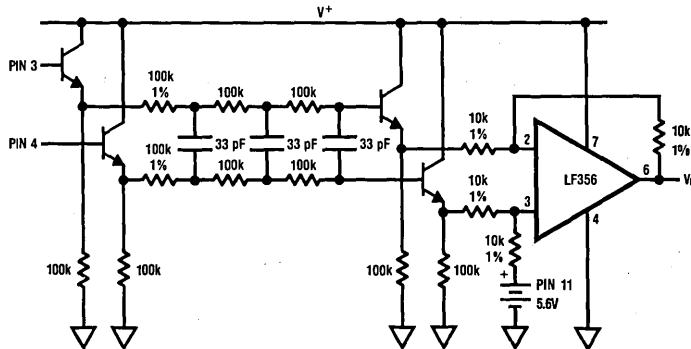

FIGURE 22. Circuit to view the differential demodulated data signal, minus the noise and $2F_0$ components, conveniently with a single-ended gain-of-one output
- When evaluating PLL operation, offset cancel circuit operation, and loop filter values, use the filter of Figure 22 to view the demodulated signal minus the $2F_0$ and noise components. This filter models the RC lowpass filter on chip.
FIGURE 24. Oscilloscope revealing signals at several important nodes under weak signal (0.5 mV_{RMS}) conditions with SCR spikes on an otherwise quiet 115 V, 60 Hz power line. The signals are: 1) transmitted data, 2) RX carrier on the tuned transformer, 3) demodulated signal from the PLL after passing thru circuit of *Figure 22*, 4) signal after RC lowpass, 5) data at impulse noise filter integrator, and 6) received data. Horizontal scale is 10 ms per div.